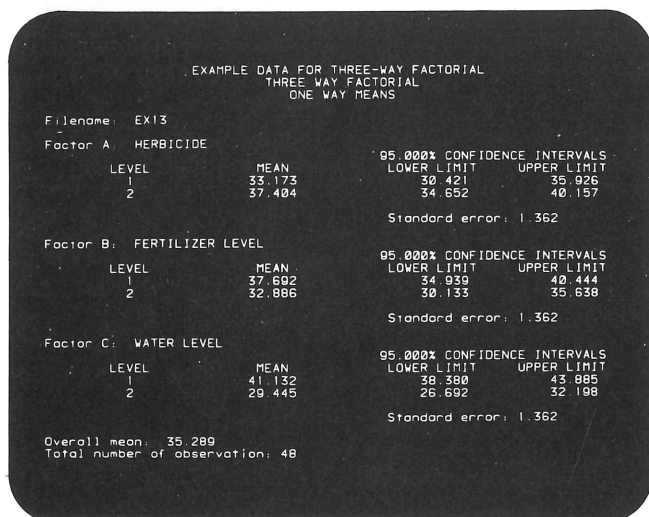

Figure 13. One-Way Means.
1. Print one-way (level) means (see Figure 13).